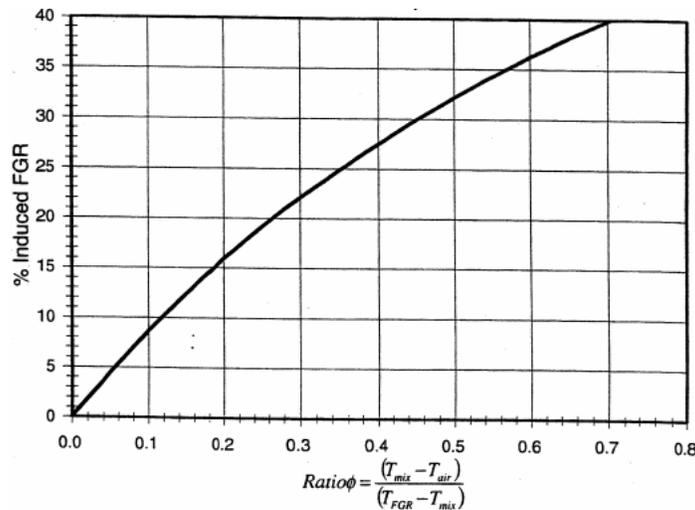

Figure 16: percent Induced FGR as function of Temperature Ratio
4.5.5 To simplify this calculation we have provided a graph (Figure 16) where the temperature ratio is plotted against the % IFGR. After calculating the temperature ratio and locating that value on the X-Axis, move vertically to the plotted curve then read the % IFGR value across the graph on the Y-Axis. Excess air (% O₂) in the stack or fuel type have very little effect on the calculated % IFGR. Software for this calculation can be provided by Power Flame through our Customer Service Department (620-421-0480 or CSD@powerflame.com).